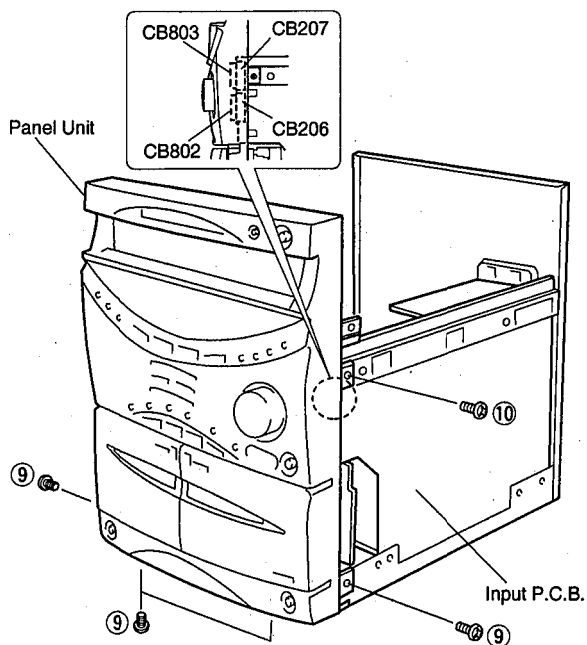

Fig. 8
- d. Remove 4 screws (⑨) from the Front Panel in Fig. 8.
- b. Remove a screw (⑩) and then remove the Panel Unit in Fig. 8.